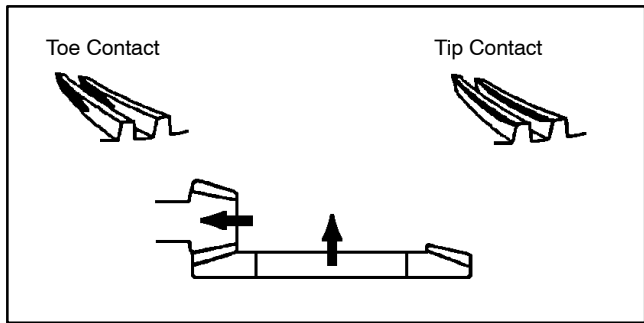

Figure 33
2. If contact is toward the toe or tip of the gear (Fig. 33):